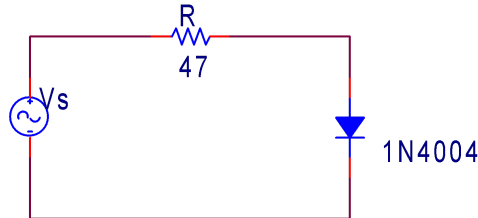

Figure 1: Diode circuit
1. In Spice, implement the diode circuit shown below (Figure1). Use the diode component D1N4004 or any other generic diode. Set the source voltage to a 100 Hz sinusoidal wave with a 2 V amplitude.